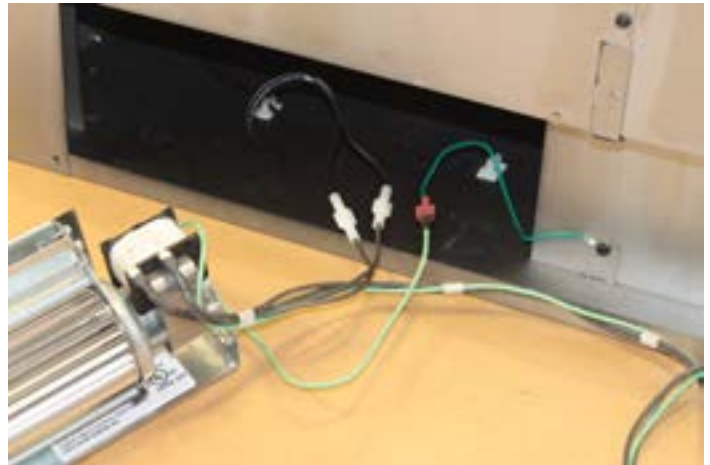

Figure 3
- Locate the blower wire terminals inside the bottom of the fireplace and make the three connections as shown in Figure 3.